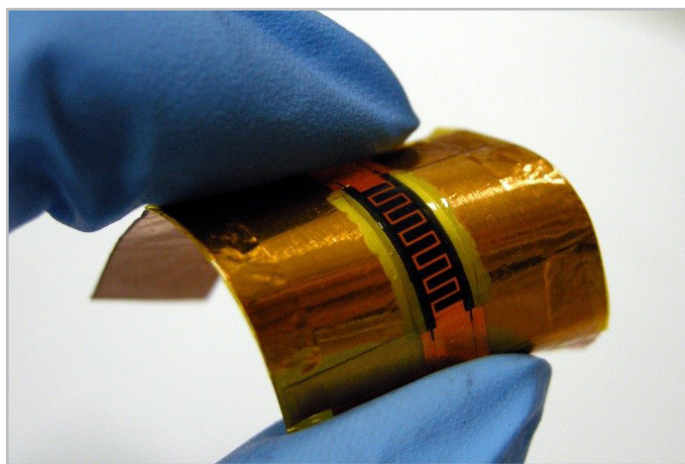

Figure 2. A carbon micro-supercapacitor prepared by laser direct writing
(PI) film in air (Fig. 2). In order to suppress the oxidation process and thus, increase the conductivity of the laser-induced carbon structures, the laser direct writing was conducted on PI films in an inert gas such as Ar, resulting in carbon MSCs with improved volumetric energy density and power density. Furthermore, high-conductive Au nanoparticles can be incorporated to construct double-layer carbon/Au composite electrodes with improved conductivity by two-step laser direct writing.